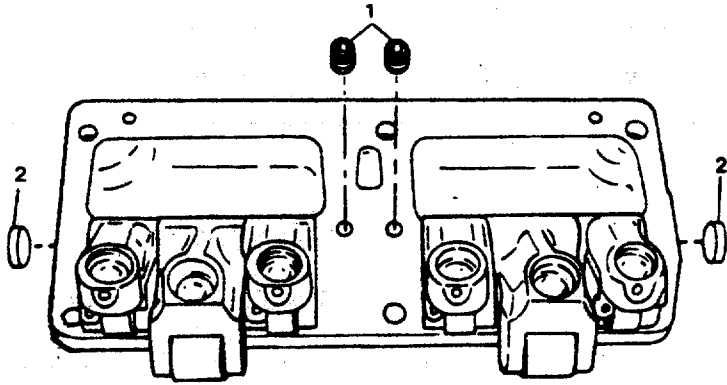

FIGURE 4-20. Cam Follower Lockscrews and Plugs.
- a. Remove the lockscrews (1, Figure 4-20) that hold the shafts in the housing (Figure 4-20).
- b. Remove the expansion plugs (2) from the ends of the housing.
- (1) Use a punch with a sharp point to make a hole in the center of the plugs. Hit one edge of the plug to loosen it.
- (2) Use pliers to remove the plug.